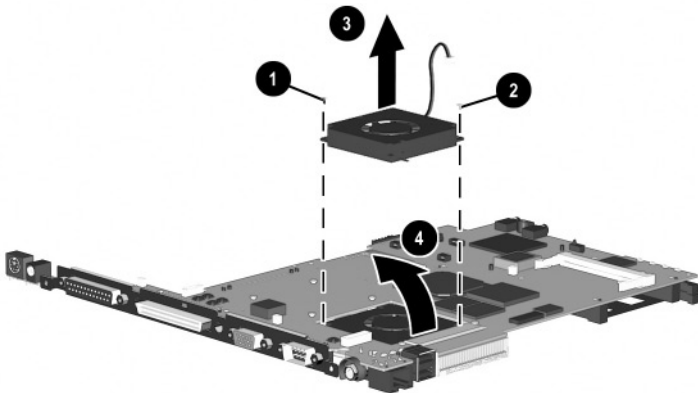

Figure 5-29. Removing the Fan on an Evo Notebook N600c
5. Remove the PM2.0 × 4.0 screw ❶ and PM2.5 × 5.0 screw ❷ that secure the fan to the system board (Figure 5-29).
6. While holding the system board above the work surface, push the left side of the fan up ❸ from the bottom of the system board.
7. When the left edge of the fan has cleared the system board, slide the fan to the left ❹ and out of the heat sink.